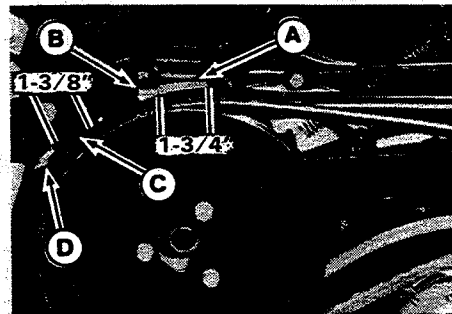

Figure 36. Pulley Brake Adjustment
- The pulley brake return spring (C, figure 36) should be compressed enough so that it measures $1-3/8$ inches (35 mm) with the clutch-brake pedal released (up). If it does not, turn the nut (D) to obtain the proper measurement.
- While holding the clutch-brake pedal down fully, measure the length of the rear spring (A) on the pulley brake rod. It should be compressed to $1-3/4$ inches (45 mm). If it is not $1-3/4$ inches, loosen the adjusting nut (B) and move it forward or back until the proper measurement is